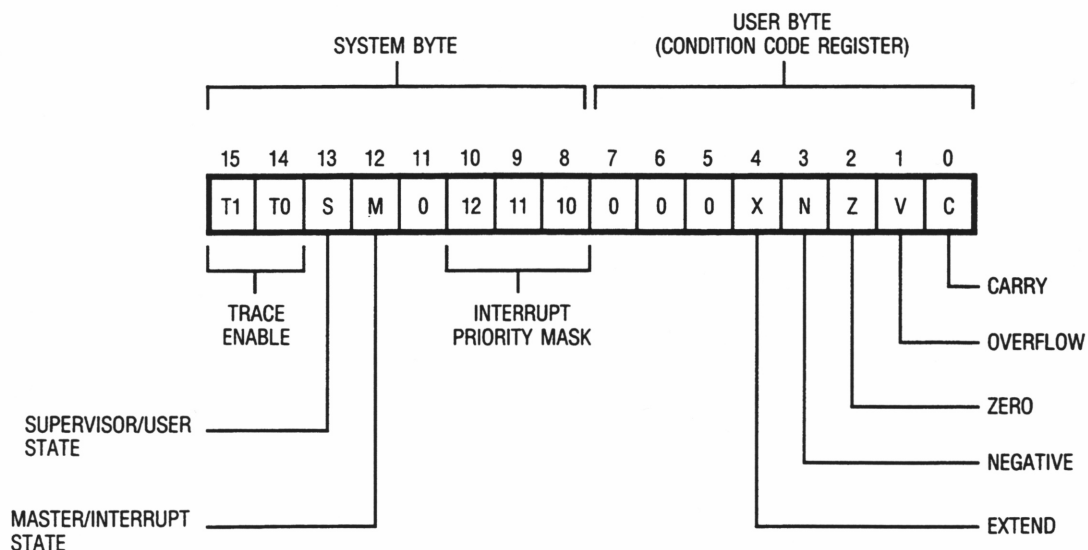

Figure 1-4. Status Register
The status register, SR, (Figure 1-4) stores the processor status. It contains the condition codes that reflect the results of a previous operation and can be used for conditional instruction execution in a program. The condition codes are: extend (X), negative (N), zero (Z), overflow (V), and carry (C). The user byte containing the condition codes is the only portion of the status register information available in the user privilege level, and it is referenced as the CCR in user programs. In the supervisor privilege level, software can access the full status register, including the interrupt priority mask (three bits) as well as additional control bits. These bits indicate whether the processor is in:
2. Supervisor or user privilege level (S)
3. Master or interrupt mode (M)